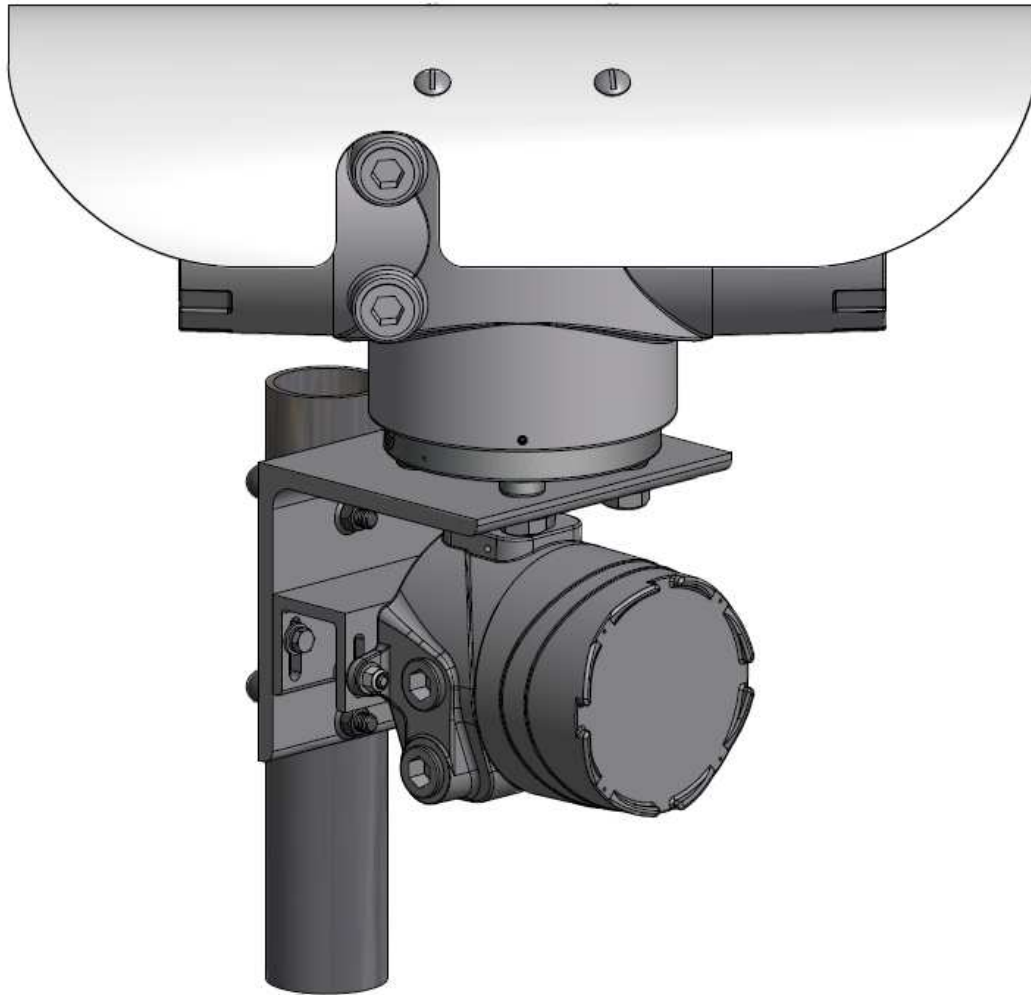

Figure 3-5 LEFM 2xxCi Remote Mounted Transmitter
Table 3-1 LEFM 220Ci(RN) Transducer and RTD Terminations (See Figure 3.5)
Table 3-2 LEFM 240Ci(RN) Transducer and RTD Terminations (See Figure 3.5)